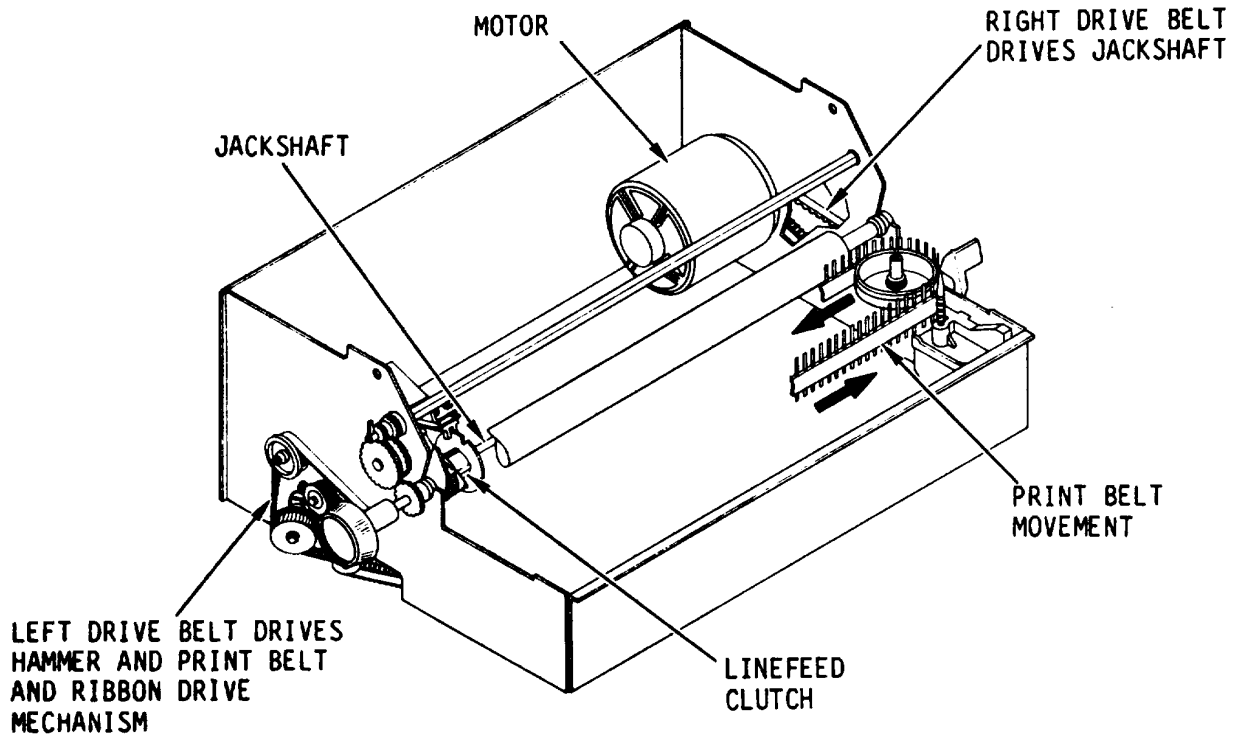

Figure 2-2. Main Drive
a. Main Drive. The ac motor under the LPS board provides the drive power (fig. 2-2) for the line printer. It drives the jackshaft, which drives the line feed clutch, the hammer and print belt assembly, and the ribbon drive mechanism.